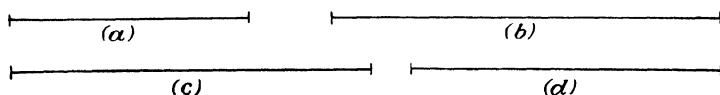

Fig. 119.
1. Bisect the lines in Fig. 119 after drawing them in your notebook. Check with a rule.